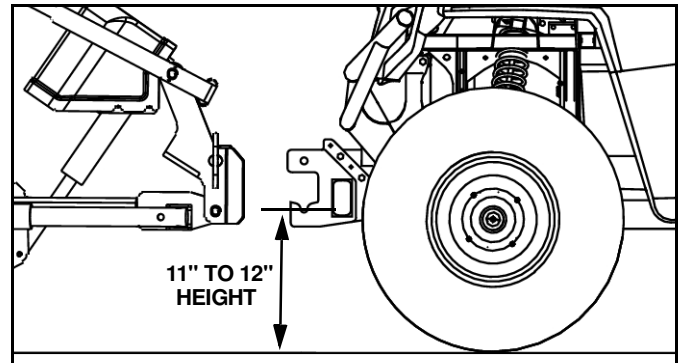

Figure 5
12. Position the UTV Mount (#1) on the machine. Align the mount holes with both Front Brackets (#2 & 3) to provide an 11" to 12" height between the lower pin slots and the ground. (See Figure 5.)